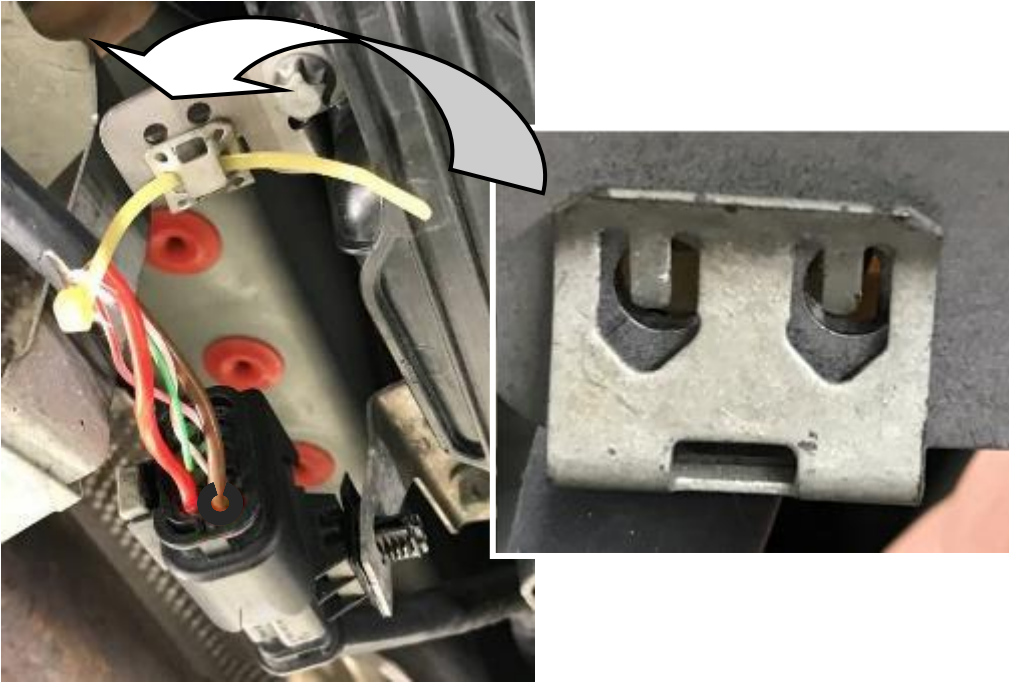

Figure 9
3. Attach retaining clamp with new **preassembled** cable tie (Figure 9) to new wiring harness bracket in direction of travel from rear up to end stop.